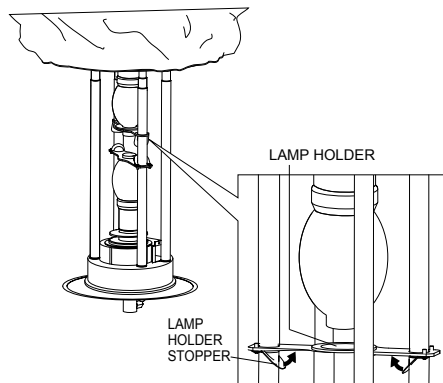

Figure 35. Lamp Holder
3. Press the tabs on the lamp holder and push up lamp holder to release it from lamp. Do the same to the lower lamp if necessary. See Figure 35.